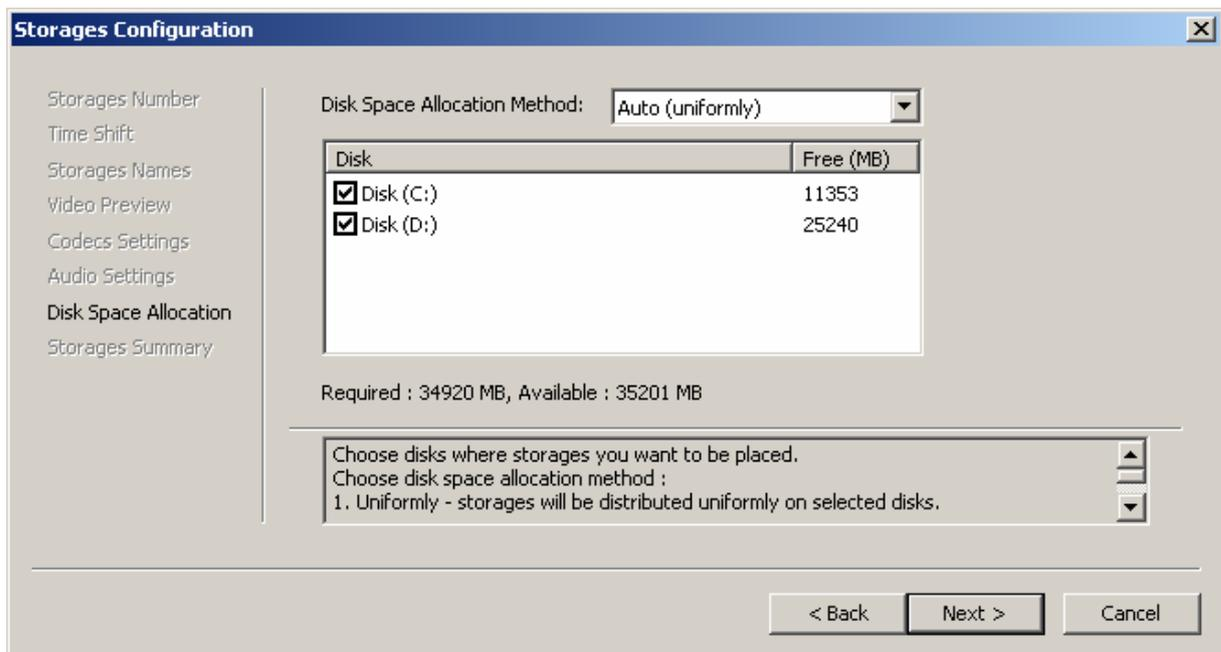

Fig. 13. Specifying the parameters of disk space allocation
The first page (Fig. 13) is intended for selecting a method of disk space allocation and the disks to locate storages. Disks for storages are selected from the table where all disks available on the computer are listed in the **Disk** column and free space on each of them is shown in the **Free (MB)** column. A storage can be located on several disks in parts.